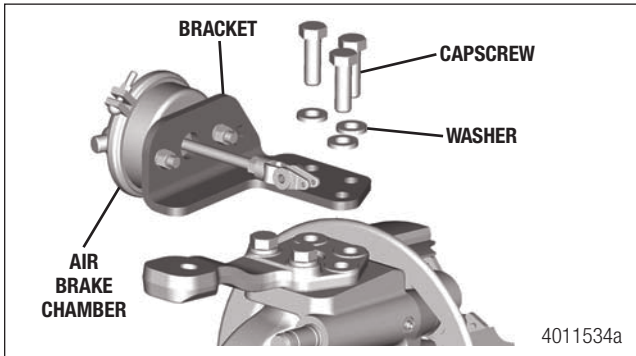

Figure 5.19
- Remove the air brake chamber and bracket. Figure 5.19.